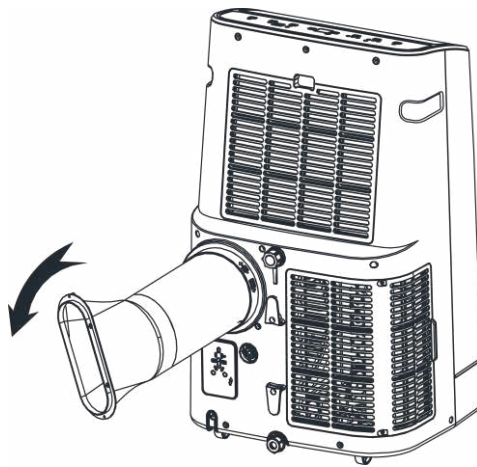

Figure 1
1.1 Install the heat pipe assembly (as shown in Fig.1)
- 2) Insert the heat pipe assembly (the end of the exhaust joint) into the back panel vent slot (push to the left) and complete the assembly (as shown in figure 1).